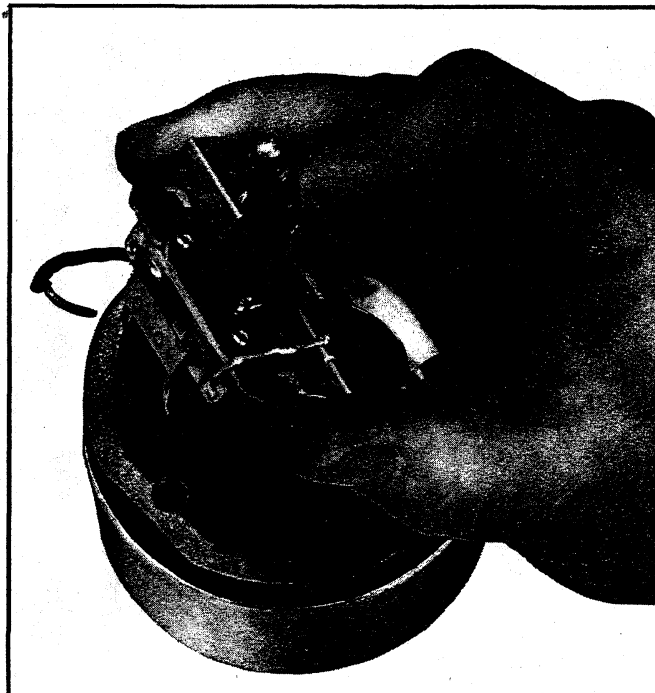

Fig. 78 - Removing Brush Holder
6. Install "U" shaped brush retainer clip over brush holder that has brush lead attached to circuit breaker (fig. 78).
7. Holding the opposite brush from that retained in Step 6, carefully lift the brush holder off the mounting tabs far enough to clear the armature commutator (fig. 78).
5. Position the partially assembled brush plate over the armature shaft far enough to allow re-assembly of the remaining brush in its brush holder; then position the brush plate assembly on the mounting tabs in the position shown in Figure 78.